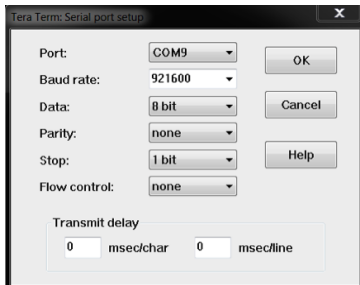

Figure 2 : Serial Port Settings
3. Set the serial port setting in the tera term as shown Figure 2.